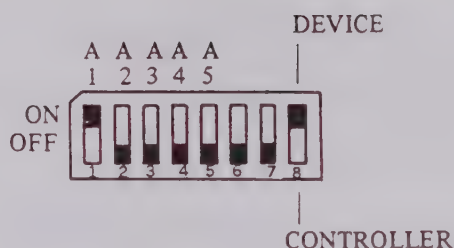

Fig. 3-2 Address switches
Figure 3-2 shows details of the address dip switches. Address bits A1 to A5 must be set appropriately, and switch 8 must be set to DEVICE (ON) when using MS420[] as a talker/listener.
At the factory, MS420[] is set as shown in Figure 3-2 (address is 1).